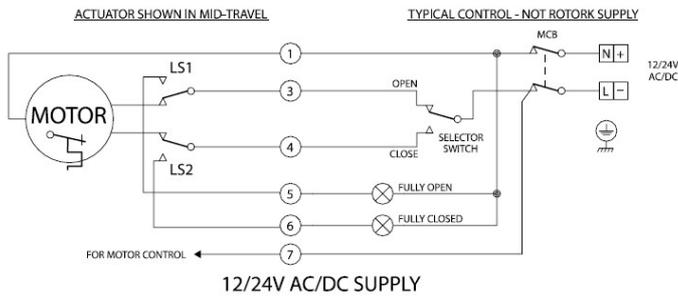

Figure 5: LS1/LS2 in wiring diagram
- .....the contact of LS2 is opened (voltage 24VDC on Terminal 6, see Figure 5)
- .....the contact of LS1 is opened (voltage 24VDC on Terminal 5, see Figure 5)